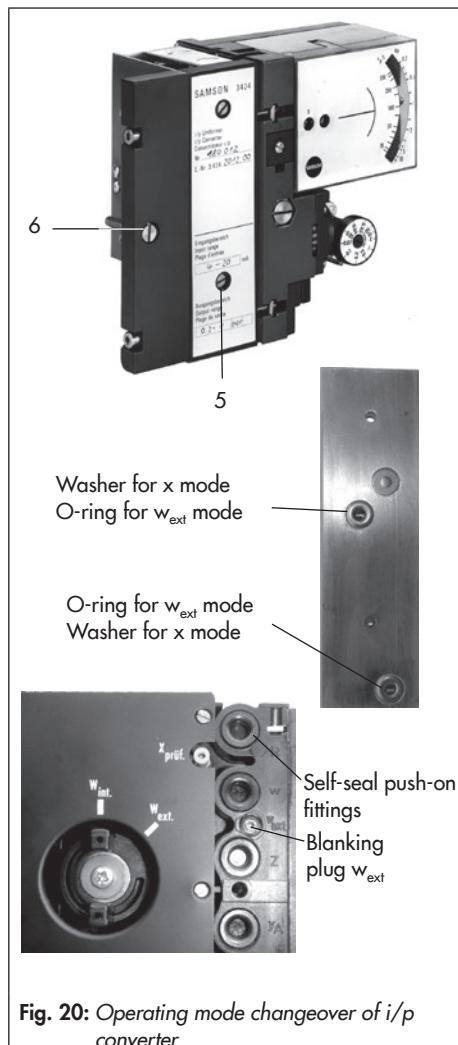

Fig. 20: Operating mode changeover of i/p converter
- Unscrew the fastening screw (6) at the controller module and pull the module off together with the i/p converter from the self-seal push-on fittings. Lift it out of the control station.
- Swap the location of the O-ring and washer on the holes on the inside of the plate as shown in Fig. 20.